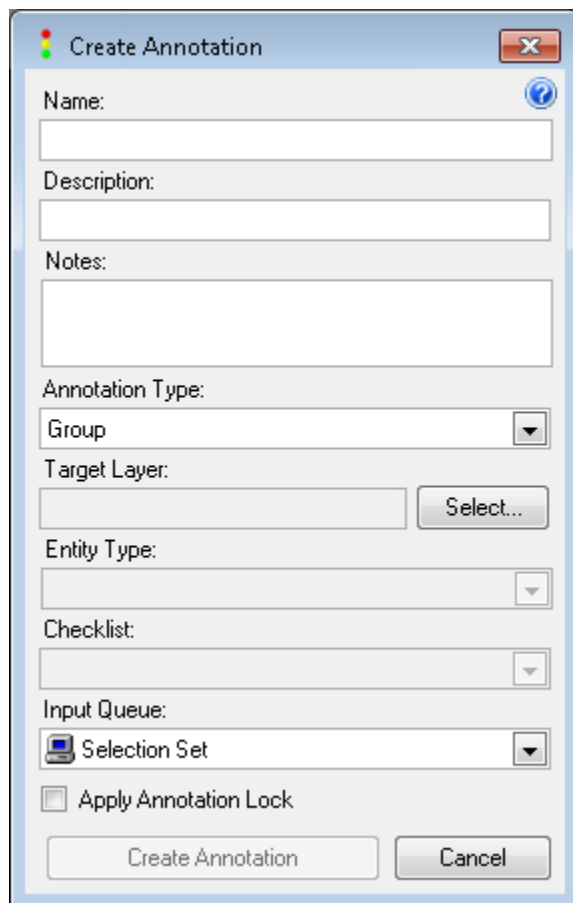

Figure 22-1 The Create Annotation dialog
- Press the **Create Annotation** tool on the annotation toolbar. You will be presented the dialog of Figure 22-1.